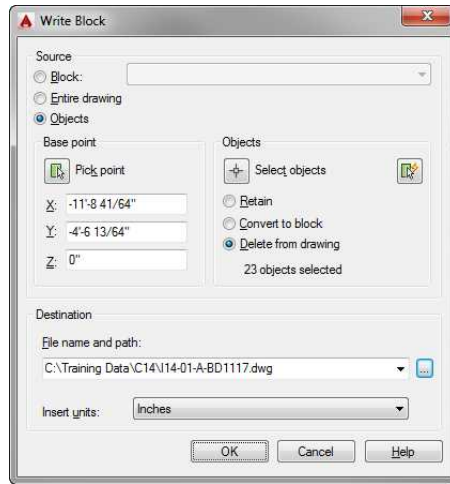

FIGURE 14.4: Creating a new drawing for the title block with the WBLOCK command
12. Verify that your Write Block dialog box looks like Figure 14.4 and then click OK to finish the command.